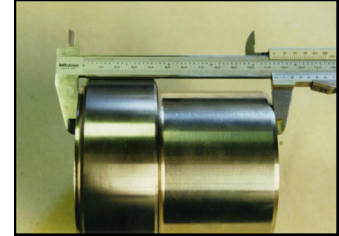

Fig 4.
- Step 3.** Add 4.2mm or 2-3/4 turns **anti-clockwise** to the distance measured in step 2. Set the spacer to this length see Fig 4.